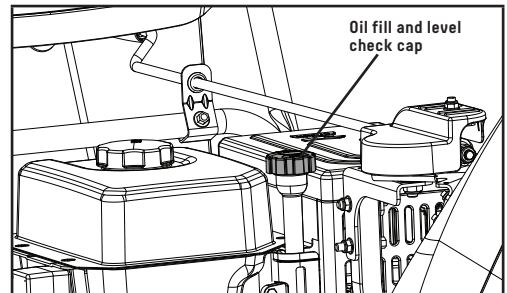

Figure 15A
2. Remove the oil cap/dipstick and wipe it clean (Fig. 15A).